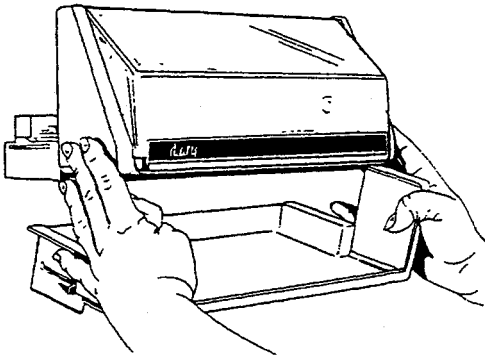

Figure 15
e. Gently pull down. See Figure 15.